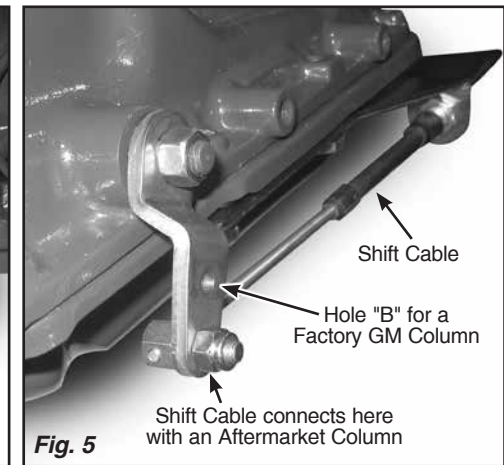

Fig. 5
Step 6: Make sure the transmission is in Park. Pull the inner part of the shift cable out at the transmission end as far as it will go, and tighten the mounting bracket bolts. Make sure the inner part of the shift cable is fully extended when the transmission is in Park. Fig. 5